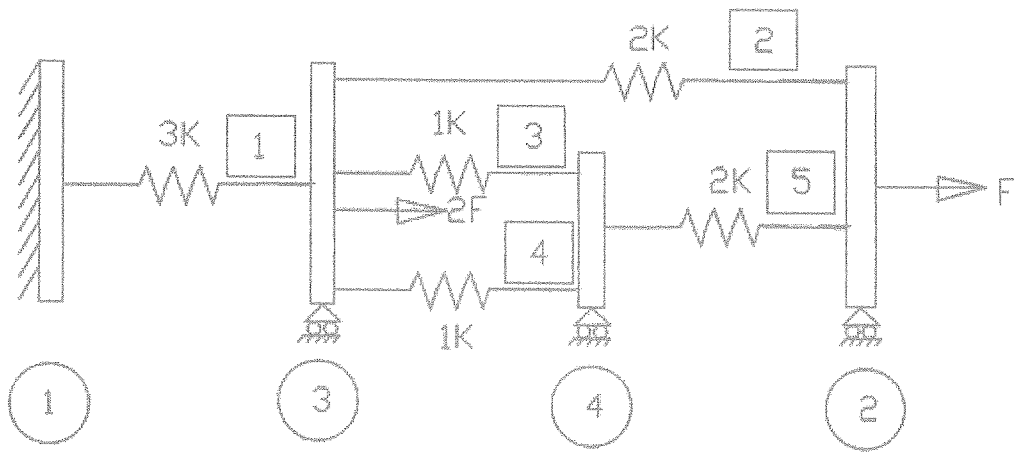

Fig. Q1
- Q1. Fig. Q1 shows a one dimensional spring assembly. Element numbers are boxed and node numbers are circled. Element 1 has stiffness of $3K$, while elements 2 and 5 has $2K$ each. Rest of the elements (i.e. 3 and 4) has stiffness of $1K$ each.
- a) Assemble the stiffness matrix of the system of springs following the node numbering given in Fig. Q1.